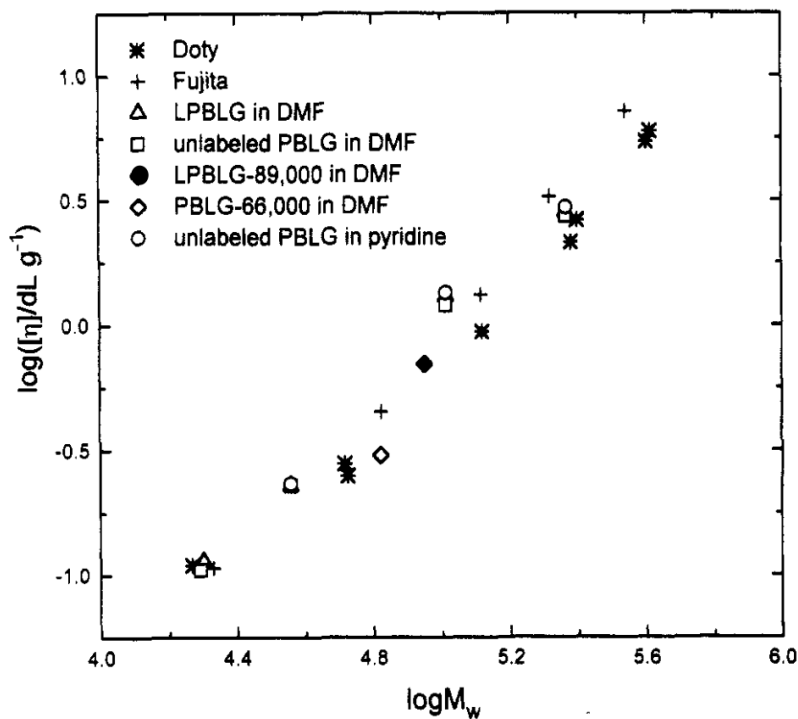

Figure 11
If the intrinsic viscosity and molecular weights are determined for a series of polymers, a Mark-Houwink-Sakurada plot can be built connecting molecular weights to intrinsic viscosity for unknown polymers of the same type, as shown in Figure 11. The K and a parameters have been determined for many polymers. The a parameter is particularly illuminating, as it gives an indication of the shape of stiffness of polymers. For example, $a = 0.5$ signifies a polymer for which intramolecular attractions between the chain segments exactly cancel the natural tendency of the polymer to expand in order to avoid two segments separated by a long distance along the backbone having to occupy the exact same space. The a value associated with Figure 11 is considerably higher than 0.8, indicating chain stiffness.
- 4) Figure 11 is by Bu et al. 10.1021/ma00101a027